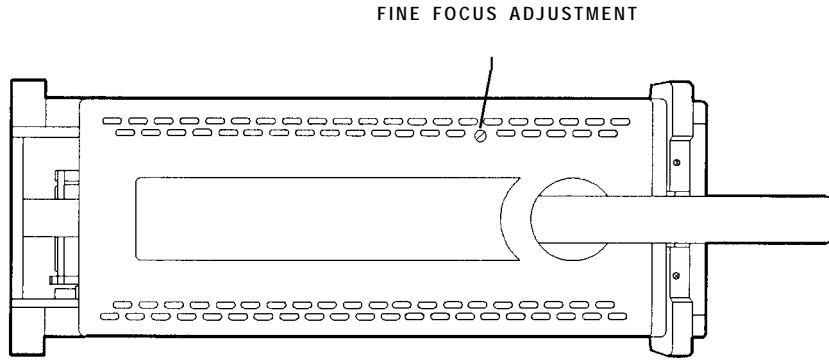

Figure 2.3. Adjusting the Fine Focus
2. Use an adjustment tool or small screwdriver to access the fine-focus adjustment. See Figure 2-3. Adjust for a focused display.